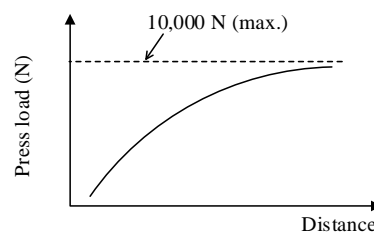

Figure 26 Maximum Press Load
- Maximum press load: $\leq 10,000 \text{ N}$ (See Figure 26)